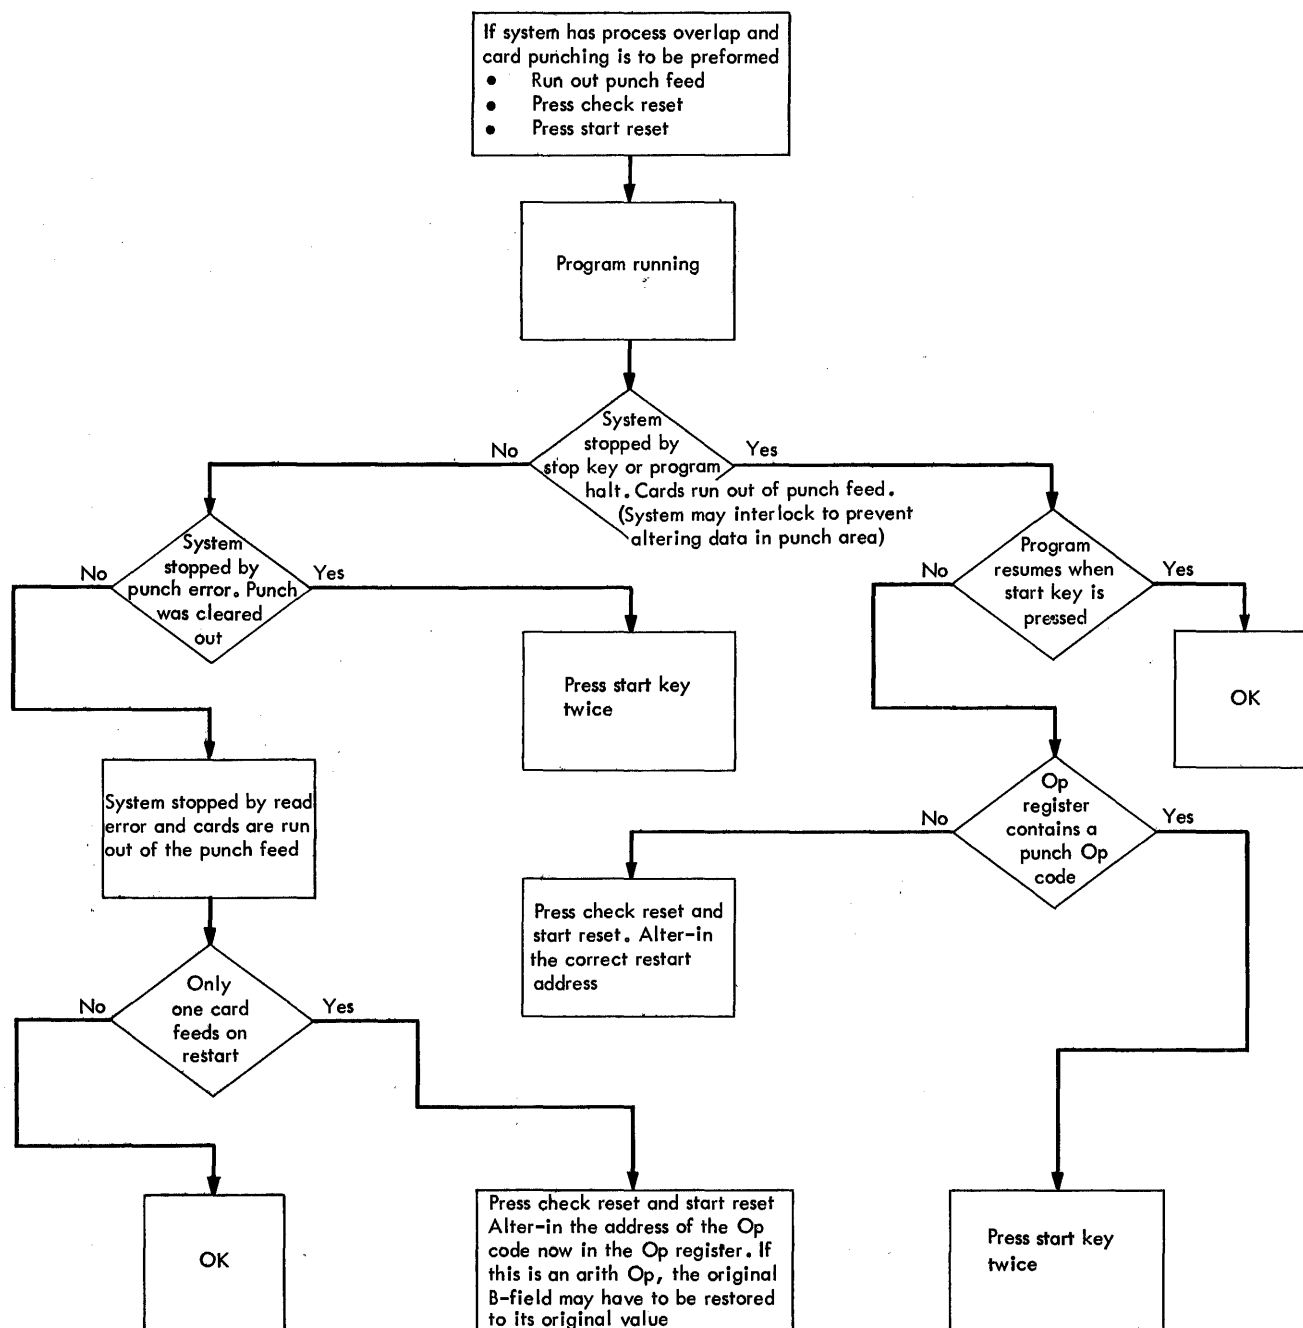

Figure 15. Initial Punch Setup after Error, Processing Overlap Special Feature
11. If the processing-overlap special feature is installed in the 1401 system and an operation requires card punching, cards should be run out of the punch feed before operation is started. Then the START RESET key on the 1401 console must be pressed (Figure 15).